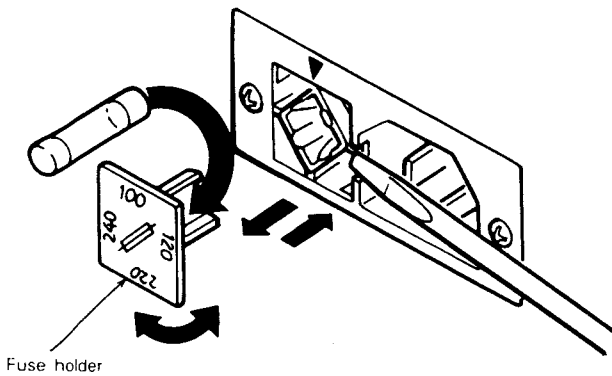

Fig. 49
2. Remove the fuse holder in the rear panel using a standard screwdriver (see Fig. 49).
Remove the fuse holder in the rear panel using a standard screwdriver. Then set the label of your line voltage to the mark ▼ and plug the fuse holder back into place. When changing the supply setting from 100/120 V to 220/240 V, change the 1 A fuse for a 0.5 A one. (see Fig. 49)